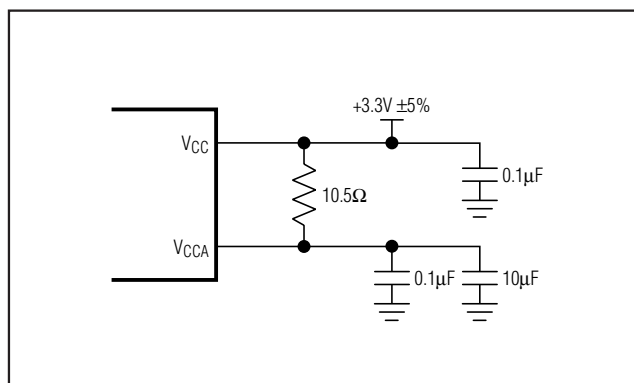

Figure 2. Analog Supply Filtering
**Note 1:** A series resistor of up to  $10.5\Omega$  is allowed between  $V_{CC}$  and  $V_{CCA}$  for filtering supply noise when system power-supply tolerance is  $V_{CC} = 3.3V \pm 5\%$ . See Figure 2.
| 17        | VCCA                | Analog Power Supply for the VCO. Connect to +3.3V. For additional power-supply noise filtering, this pin can connect to V CC through 10.5 $\Omega$ as shown in Figure 2 (requires V CC = +3.3V $\pm$ 5%).    |
The MAX3679A is a mixed analog/digital IC. The PLL contains analog circuitry susceptible to random noise. In addition to excellent on-chip power-supply noise rejection, the MAX3679A provides a separate power-supply pin,  $V_{CCA}$ , for the VCO circuitry. Figure 2 illustrates the recommended power-supply filter network for  $V_{CCA}$ . The purpose of this design technique is to ensure clean input power supply to the VCO circuitry and to improve the overall immunity to power-supply noise. This network requires that the power supply is  $+3.3V \pm 5\%$ . Decoupling capacitors should be used on all other supply pins for best performance.